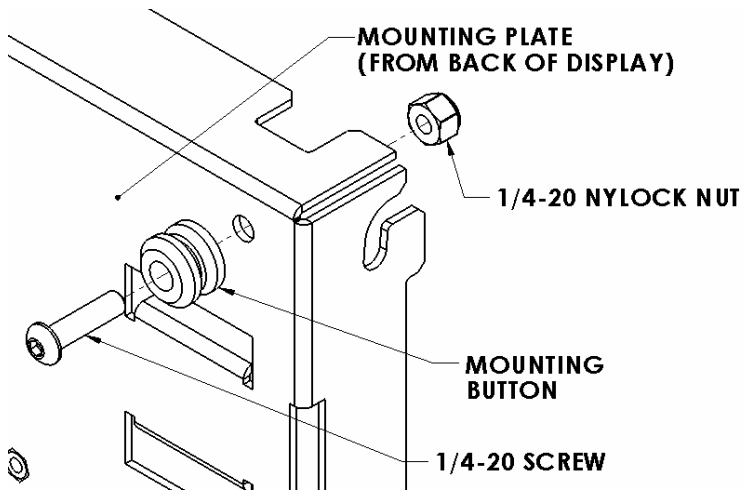
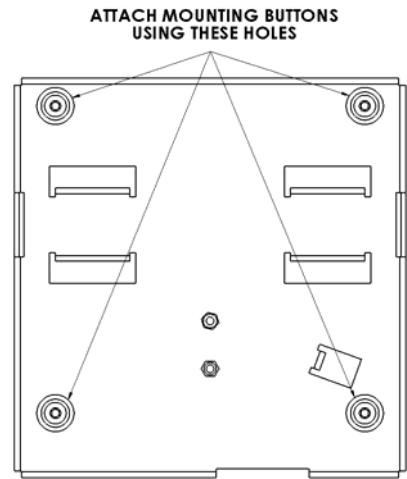

Figure 3
Figure 4
2. Attach mounting buttons to display mount bracket using four 1/4-20 screws provided (see Figure 3 & Figure 4).